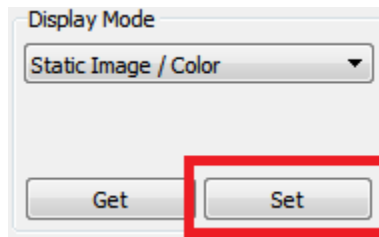

Figure 2-25. DLP LightCrafter GUI Display Mode Set Button
2. Click the Set button as shown in Figure 2-25.